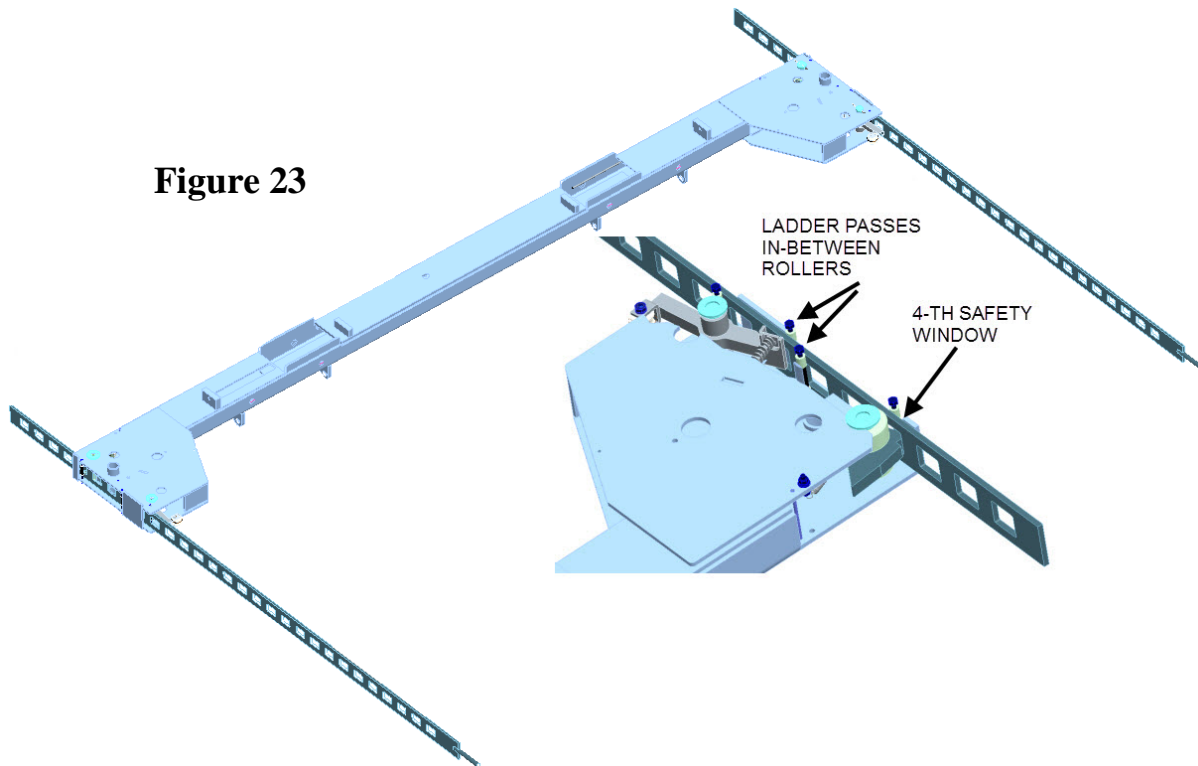

Figure 23
- Insert safety plates (ladders) into rear cross-member, non-stud end first, as shown in **Fig.23**. Insert safety ladder until main safety latch (dog) engages into 4th safety cutout. See **Fig.23**.